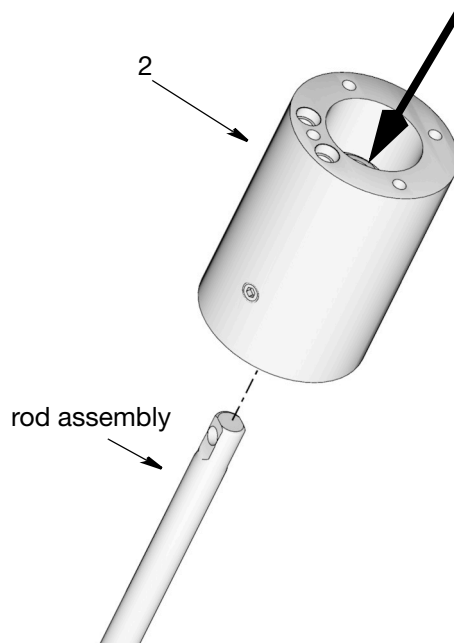

FIG. 32
19. Remove the intake seal (207), seal (206) and discard. Use new parts included in the kit for reassembly.
20. Use a hammer or rubber mallet to tap the rod assembly out of the pump adapter (2) in the direction shown in FIG. 32.